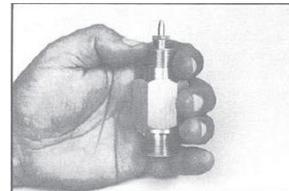

Figure 4:
4. Replace the gland and tighten it finger tight. Remove the dummy stem shown in Figure 4 and replace it with a new innervalve and stem. Tighten the packing gland and test the seal at final assembly the same as with chevron ring packing.